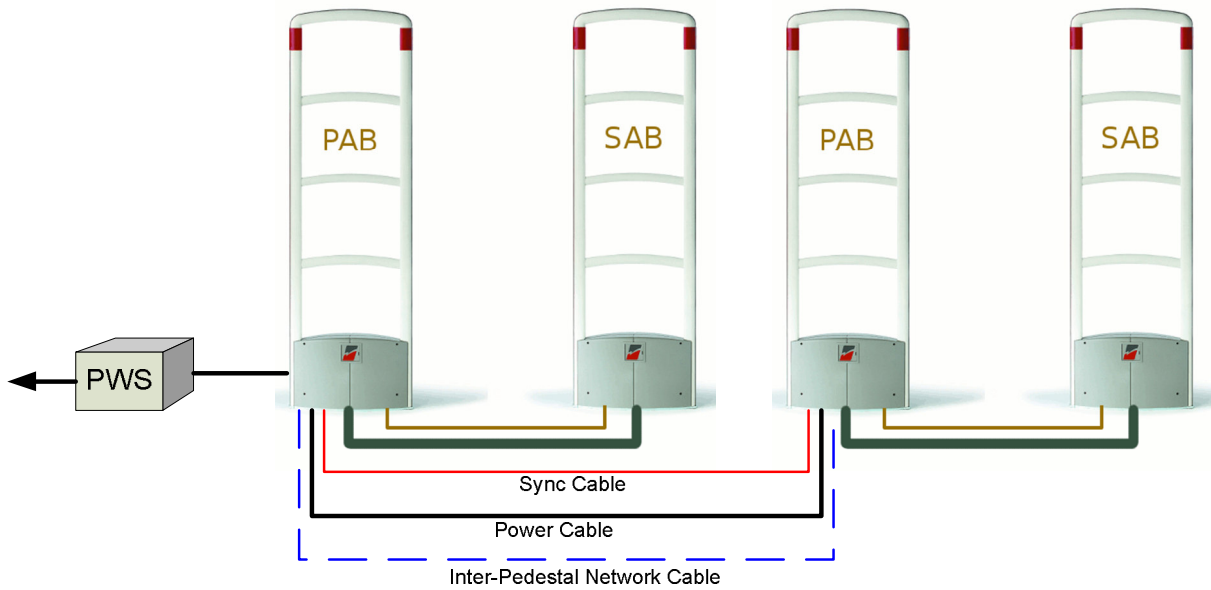

Figure 19 Multiple Aisles
A Multi-Aisle installation is when there are more than one antenna pairs installed at an entrance/exit location. Multi-Aisle installation consist two (2) or more primary antennas (PAB). If the distance between two (2) aisles is shorter or equal to 40 feet, sync cable(s) is needed to connect PABs' RF sync terminals. In addition, a 24VDC power supply can drive 2 aisles (except Celetronix LFVC36FS24S91). In some applications, inter-pedestal network is required for multiple aisle installation. Both 3G Trend/Liberty PX and 3G Plus/Liberty QX offer the capability of inter-pedestal communication network via PAB's communication ports. *Figure 19 Multiple Aisle* shows a typical two (2) aisle configuration.